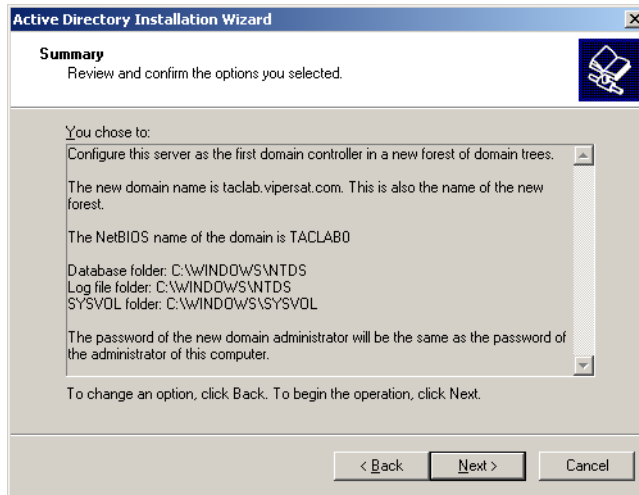

Figure D-17 Summary screen
19. Review the **Summary** screen shown in figure D-17, then click the **Next** button to continue.